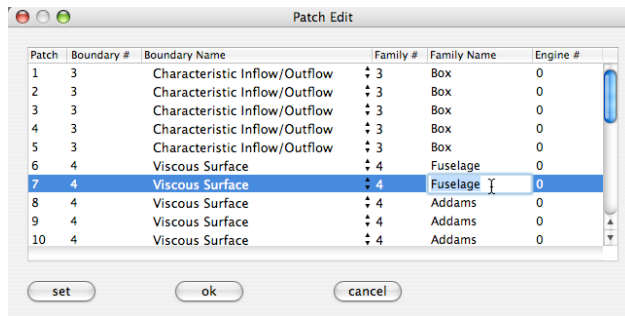

Figure 2.3.8 Patch Family Name specification in the Mac variant
4. If necessary, enter the Family Name you’d like to associate with the patch : in the Linux variant, this is done by typing in an entry in the Family Name field; in the Mac variant, you double-click on the existing Family Name, and type an entry into the resulting text field, as shown in Figure 2.3.8. then click on the “Set” button. Note that selecting a face on a different patch while the Patch Edit dialog is open will **not** automatically update the Patch Edit menu and select the new patch.